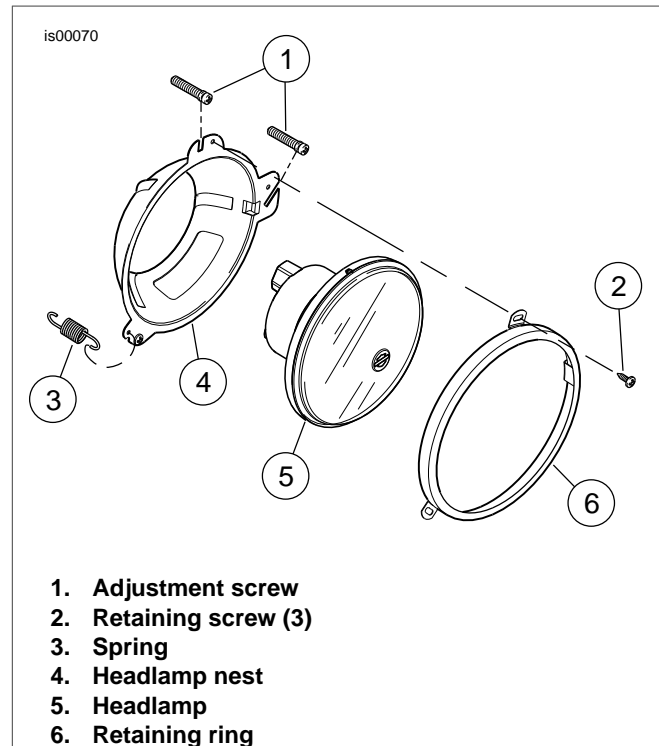

Figure 3. Headlamp Nest
2. See Figure 3. Install the previously removed headlamp into the nest using the retaining ring and three screws (2).